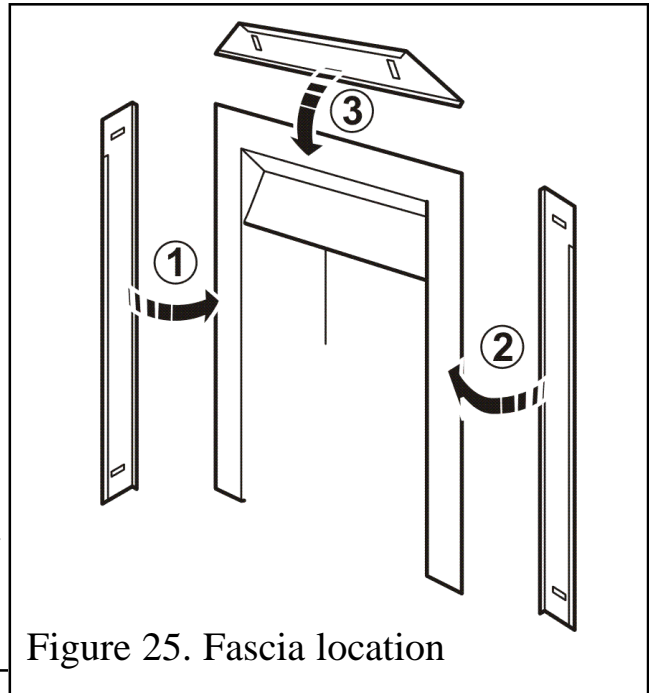

Figure 25. Fascia location
3. Locate the side fascia trims as in figure 25.
4. Locate the top fascia trim as in figure 25.